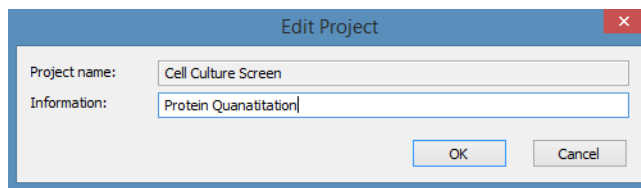

Figure 4-71: Edit Project Dialog Box
2. Select **Edit Project** to display the Edit Project dialog box (Figure 4-71).